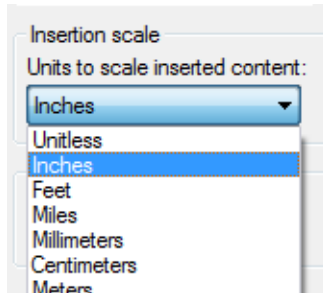

Figure Step 7
Step 7 Pull down the Insertion scale list and select Inches. Click OK to close the Drawing Units dialogue box. (Figure Step 7)